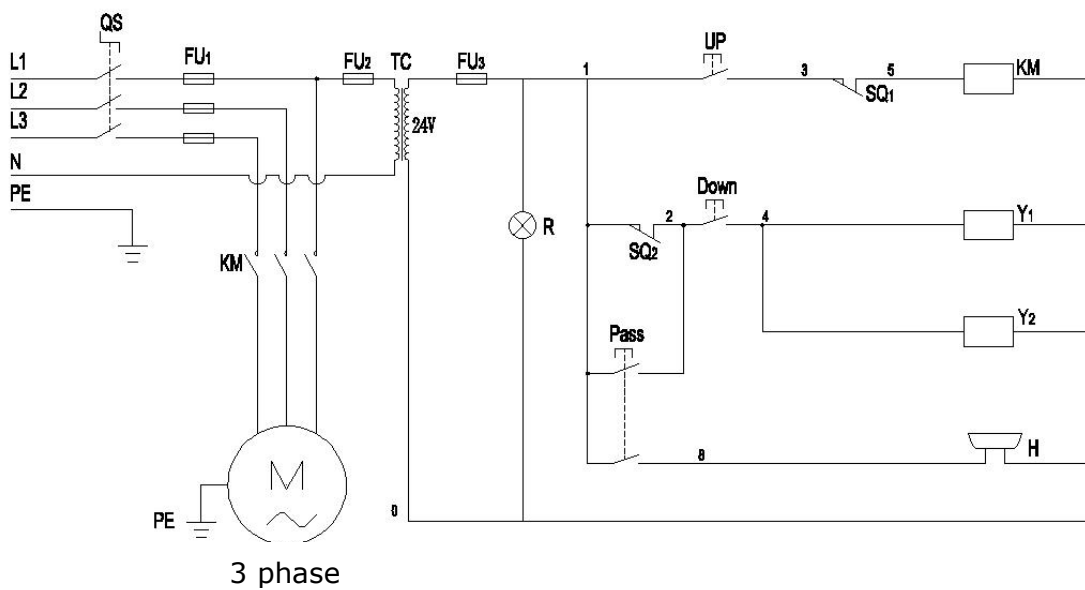

Fig. 13
1.2 Circuit Diagram **(See Fig. 13)**.